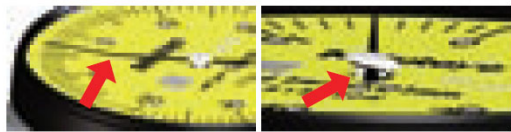

Fig. 1
2. Check the bentness of pointer and inclination of pointer metal (**Fig. 1**).